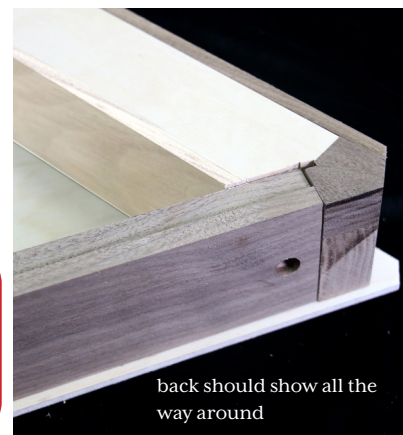

FIG. 4
- ___5. When you are satisfied with the fit, go ahead and glue the back to the frame, using plenty of clamps and/or weights to hold the parts together. BE CAREFUL to prevent the frame from sliding out of position as you glue and clamp it to the back. Wet glue makes the parts slippery. Perfect centering is not necessary, but you don't want the frame to slide right off the edge of the BACK! You should have some of the BACK showing all the way around the box, and you will trim that excess off later. (fig. 4)